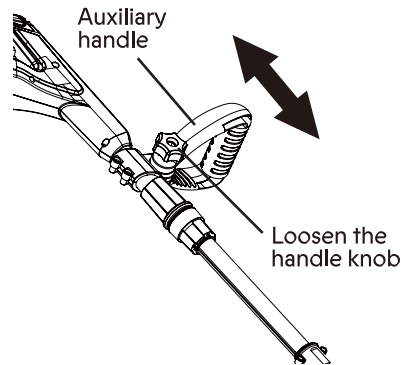

Fig. 10
2. Loosen handle knob slightly and slide auxiliary handle as needed to desired location. Retighten handle knob securely (Fig. 10). Insert the battery and resume working.